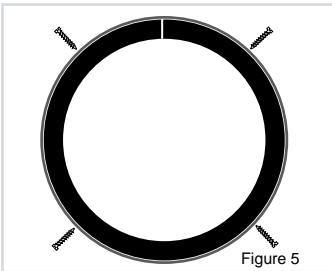

Figure 5
6. Finally, install 4 sheet metal screws to the leading and trailing edge of each duct section from the outside of the duct into the liner (Figure 5). Use a length of screw that does not protrude through the entire thickness of the liner product.